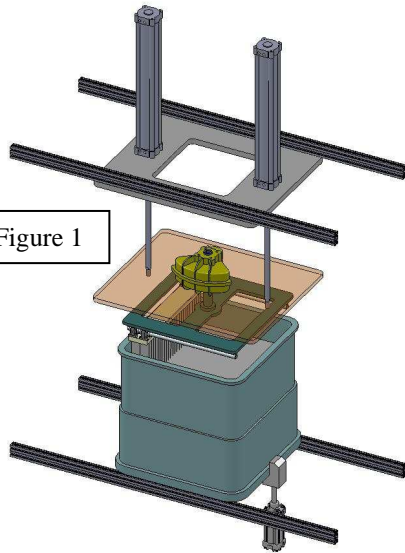

Figure 1
- 1- Descente des lames (figure 1),